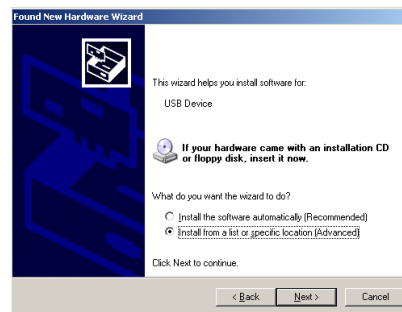

Figure 10: Install driver from specific location
5. From the Found New Hardware Wizard or Hardware Update Wizard, select to 'Install from a list of specific location' as shown in Figure 10.